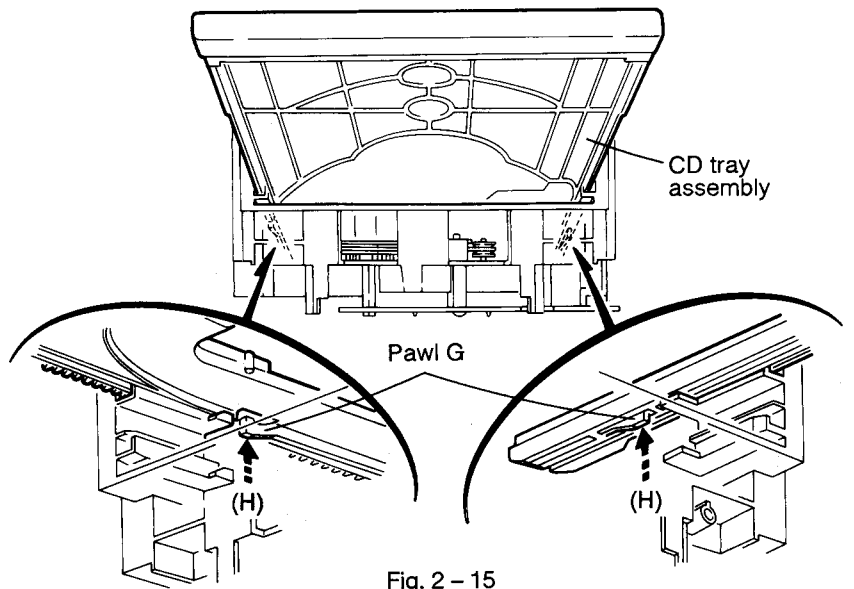

Fig. 2-15
15. At the position where the CD tray assembly has stopped, pull out the CD tray assembly while pressing (H) the two pawls (G) on the back side of CD tray assembly (See Fig. 2-15). In this case, it is easy to pull out the assembly when it is pulled out first from the stage CD tray assembly.